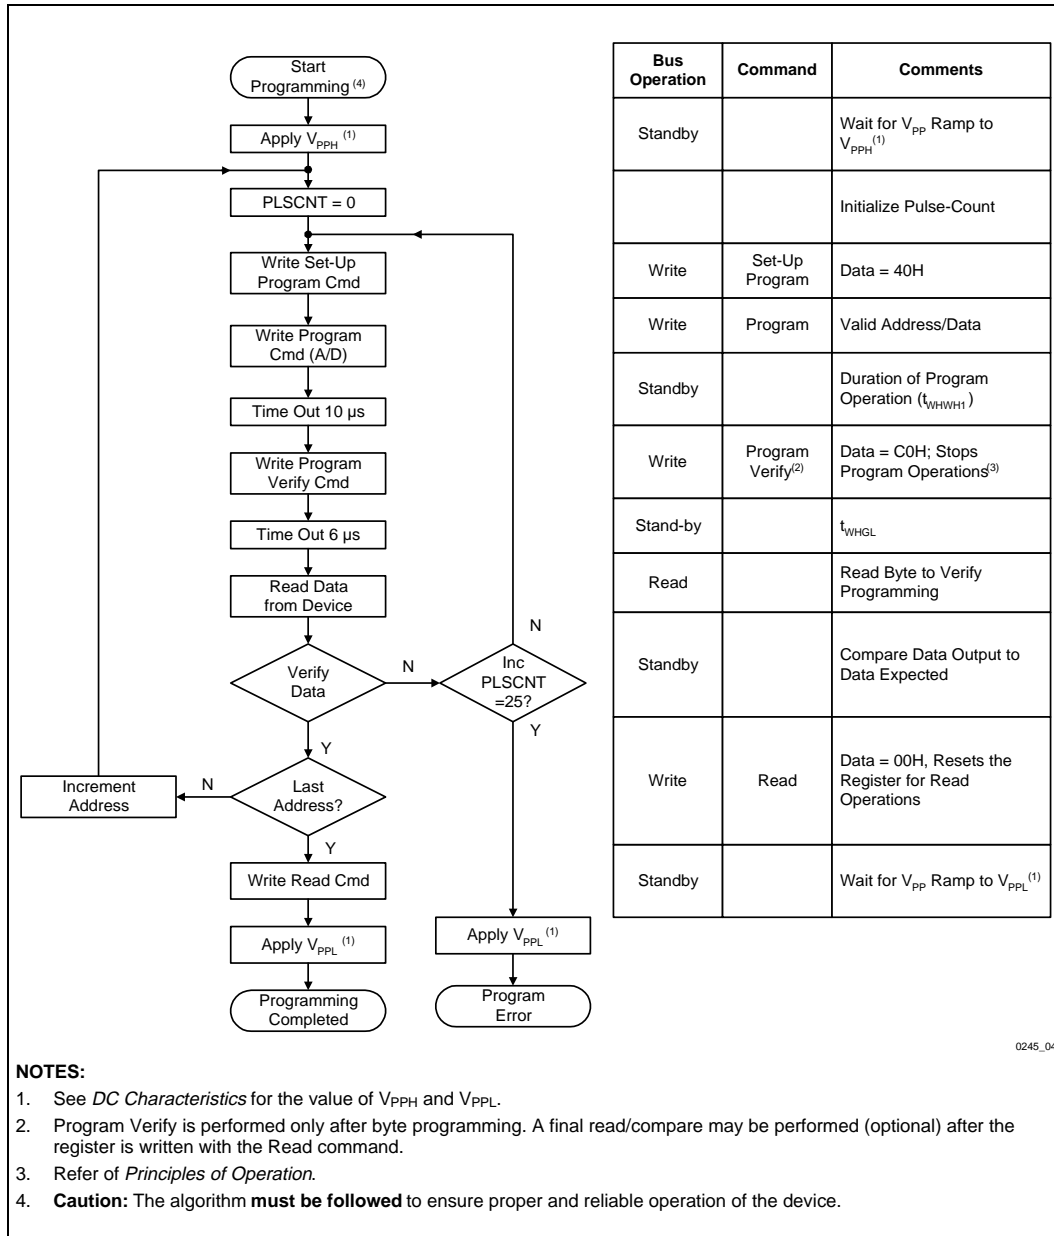

Figure 4. 28F020 Quick-Pulse Programming Algorithm
6. Figure 4 illustrates the *28F020 Quick-Pulse Programming Algorithm* flowchart.
between the programmed byte and true data means that the byte is successfully programmed. Programming then proceeds to the next desired byte location. Figure 4, the *28F020 Quick-Pulse Programming Algorithm* flowchart, illustrates how commands are combined with bus operations to perform byte programming. Refer to *AC Characteristics—Write/Erase/Program Only Operations* and waveforms for specific timing parameters.
The quick-pulse programming algorithm uses programming operations of 10  $\mu$ s duration. Each operation is followed by a byte verification to determine when the addressed byte has been successfully programmed. The algorithm allows for up to 25 programming operations per byte, although most bytes verify on the first or second operation. The entire sequence of programming and byte verification is performed with  $V_{PP}$  at high voltage. Figure 4 illustrates the *28F020 Quick-Pulse Programming Algorithm* flowchart.